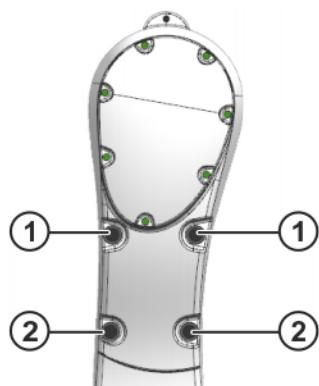

Fig. 9-2: Checking the screws, side section of the link arm
1. Check the following 4 fastening screws with the torque wrench and retighten with the tightening torques indicated if necessary (>>> Fig. 9-2).